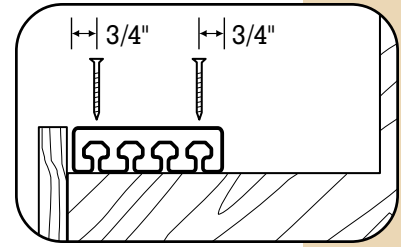

Fig. 24
- If using 2x6 Planks, use two #8, 3" stainless steel or galvanized deck screws per joist, fasten the 2x6 Plank into place, placing the screws 3/4" from the outside of the plank (Fig. 24).